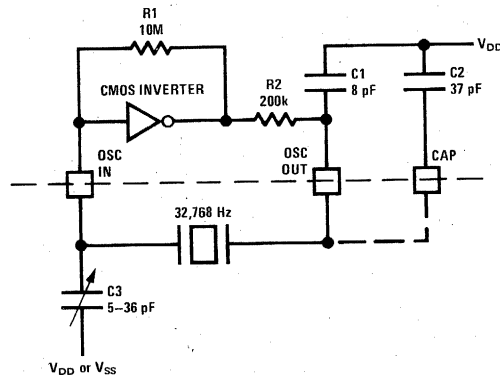

FIGURE 4. Crystal Oscillator Network
**Time Base:** The precision time base of the watch is provided by the interconnection of a 32,768 Hz quartz crystal and the RC network shown in *Figure 4* together with the CMOS inverter/amplifier provided between the oscillator in and oscillator out terminals. Resistor R1 is necessary to bias the inverter for class A amplifier operation. Resistor R2 is required in order to (a) reduce the voltage sensitivity of the network; (b) limit the power dissipation in the quartz crystal; and (c) provide added phase shift for good start-up and low voltage circuit performance. Capacitors C1, C2 and C3 provide the parallel load capacitance required for precise tuning of the quartz crystal. The RC network except the trim capacitor C3 is integrated on-chip.